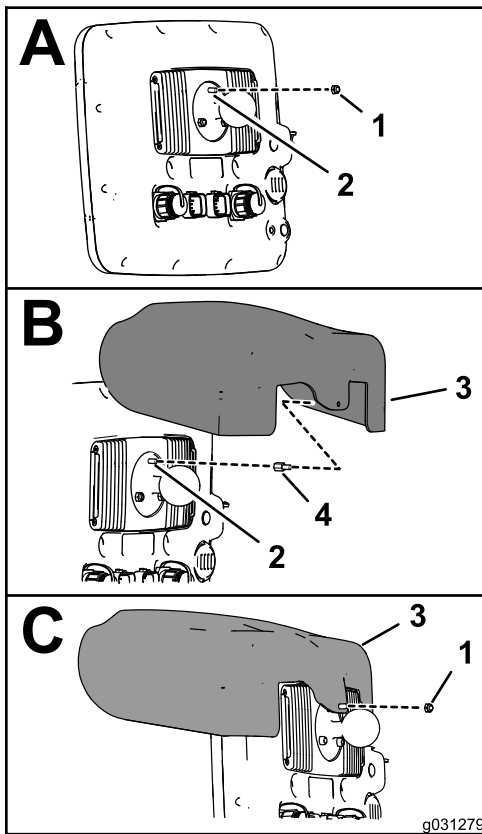

Figure 155
- At the back of the sprayer monitor and with the 2 connectors (26 pin) aligned down, remove the top locknut (5 mm) from the stud for the ball-pivot fitting (Figure 155).
- Thread the standoff into the stud for the ball-pivot fitting (Figure 155) and torque the standoff to 250 N·cm (22 in-lb).
- Align the hole in the display hood with the stud portion of the threaded standoff (Figure 155).